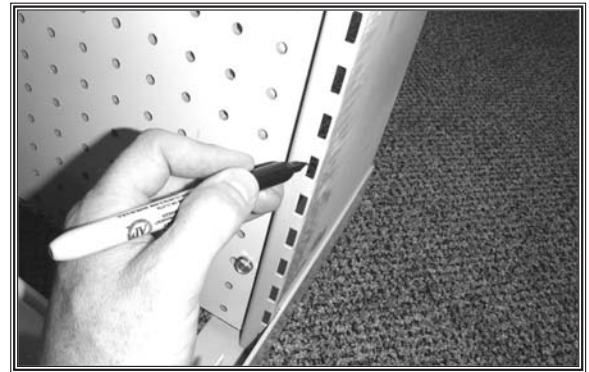

Figure 20. Marking slots for inserting flanges.
2. Count seven holes up from the bottom of the right leg to where the top flange of the bin will attach, and mark the side of the hole with a pencil or pen (see **Figure 20**). Repeat for the left leg.